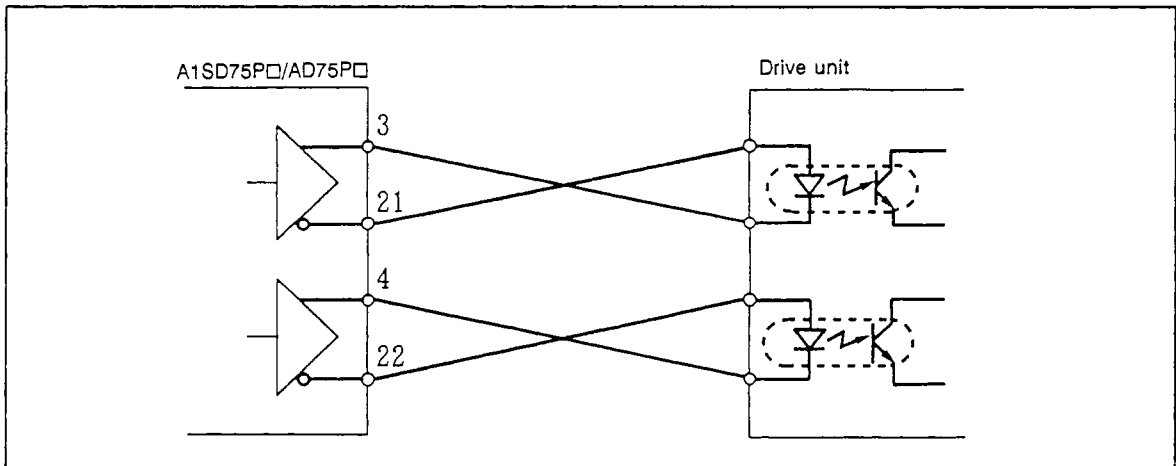

Fig. 3 Example of wiring in which command pulse logic does not match
- If the A1SD75P□/AD75P□ and servo amplifier/stepping motor driver logic do not match, use a differential driver output, and cross the wiring as shown in Fig. 3. In this case, the open collector method cannot be used.